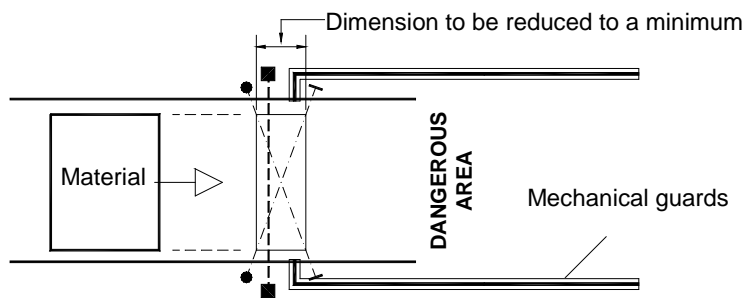

Figure 12
- the zone identified by the points of interception and clearing of the beams of sensors 1 and 2 by pallet must be limited as far as possible (or suitably protected) so as to avoid the possibility of accidental passing through the light curtain with Muting active (Figure 12).